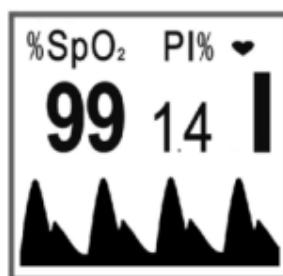

Figure 5 PI% display
5. At this time, longtime press Display Key (about 2 seconds), display screen will be shown as Figure 5. The PR is replaced by PI%. To return to PR display, just longtime press Display key again. If there is no operation in 20 seconds, it will return to PR display as well.